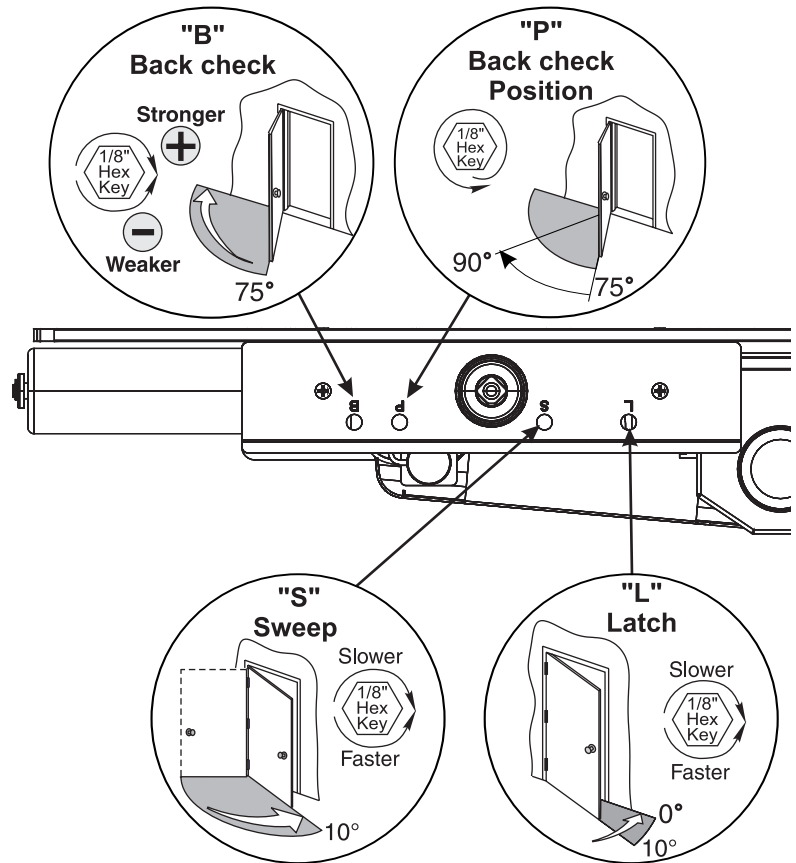

Figure 25 View of Left Hand operator from ceiling looking down
1. Closing Speed Controls (Figure 25)
2. Opening Cycle (Figure 25)